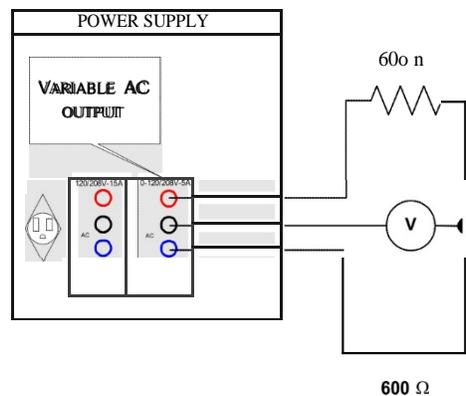

FIGURE 6.7
Step 1: Connect the circuit shown in Figure 6.7, and realize that the resistance, the capacitor and the voltmeter are connected in wye to the variable 0-120/208V output of the power supply.